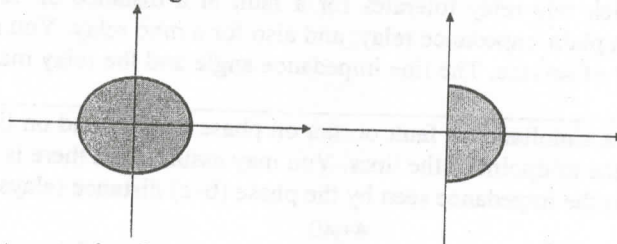

Fig. 1 Different protection functions of a distance relay, grey area is the operating area.
**Problem number (1)**
- d) Propose a schematic of basic electromechanical relays arrangement (beam type) to realize each of the distance protection function shown in Fig. 1.